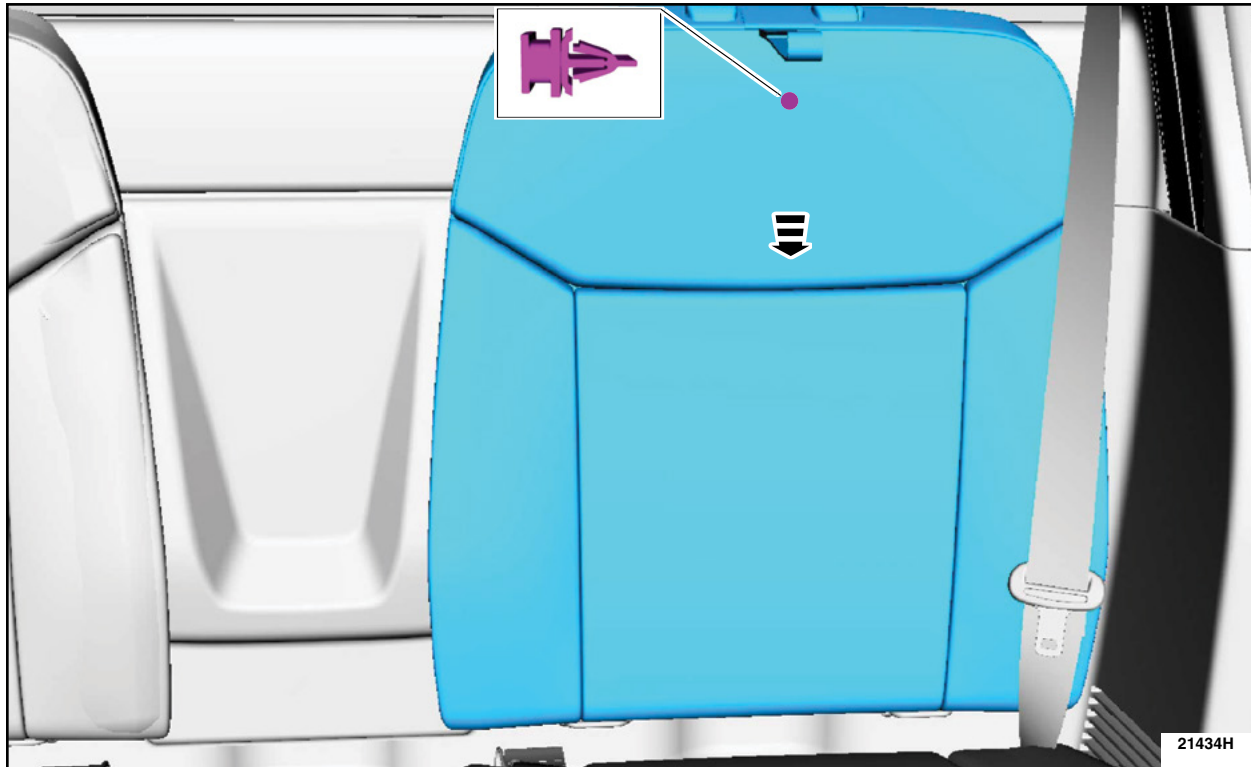

FIGURE 9
11. On both sides, install the rear seat backrests. See Figure 9.